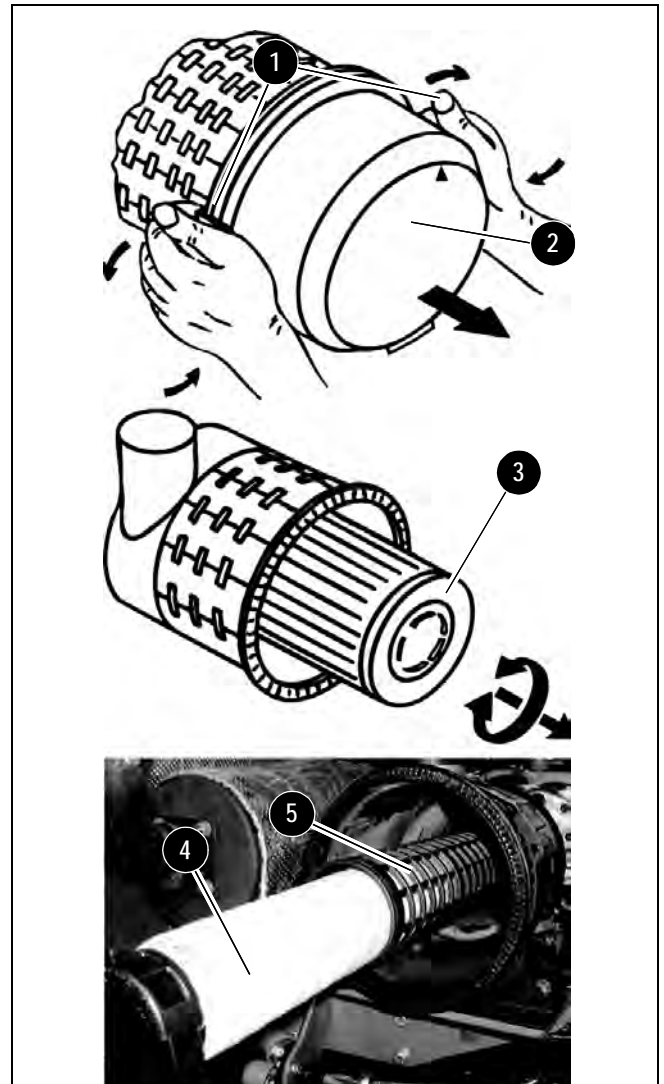

Figure 4-4 Air Filter Service
3. Release the bow clips (1) to remove the air cleaner cover and gasket (2). See Figure 4-4.
4. Carefully remove outer air cleaner element (3). See Figure 4-4. Carefully remove inner air cleaner element (3). Clean the inside of the air cleaner housing components with a lint-free cloth. Clean all contamination, dirt and dust from inside the upper and lower air cleaner housing and cover.
6. Reinstall air cleaner elements (3, 4), gasket and air cleaner cover (2). Fasten bow clips (1).